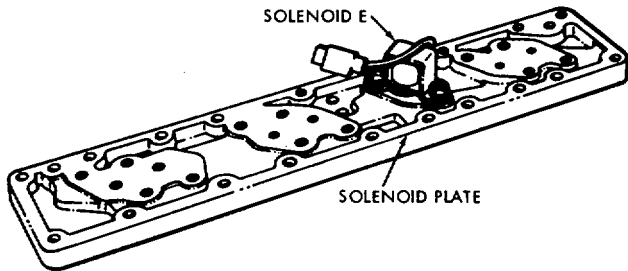

Figure 15-89. Location of Solenoid "E"
3. Solenoid E (Figure 15-89) should always be mounted as shown. Turning this solenoid end-for-end may partially close the passageway under the solenoid and increase the time required to exhaust solenoid regulated pressure from the top of the shift valve, giving erratic shift quality.